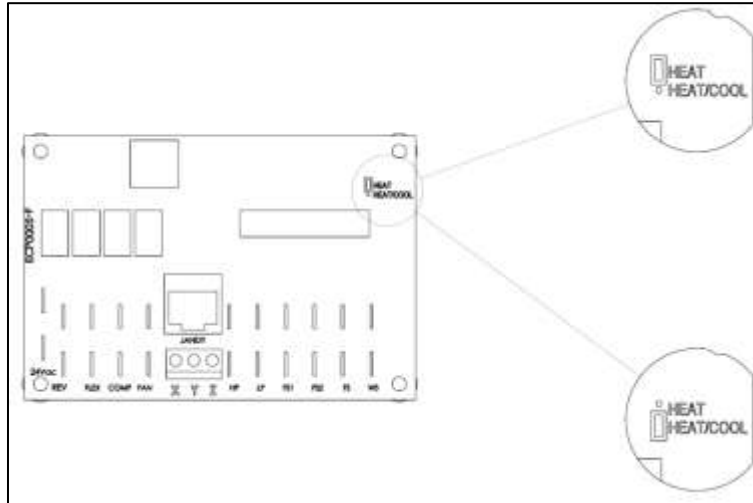

Figure 19
- 5) Remove and reposition jumper located at the upper right hand corner of control board. See Figure 19. Jumper must cover middle and lower pin as shown for “Heat and Cool”.